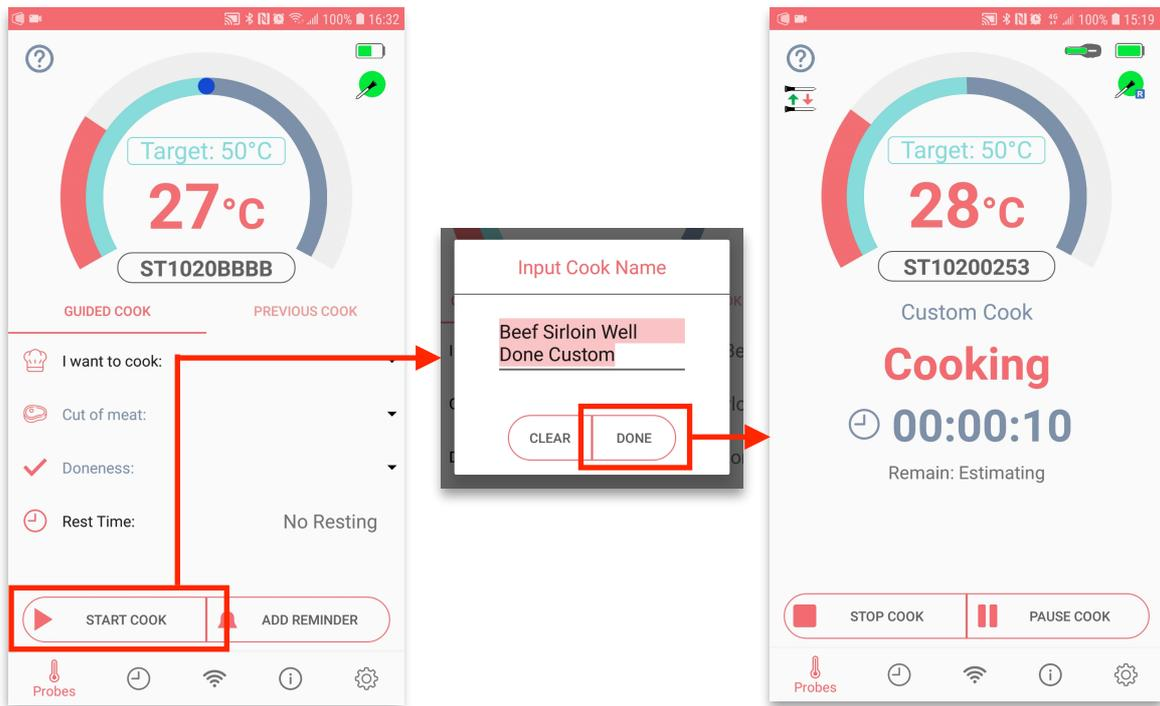

Figure 8. Start Cooking Process
10. During cooking. You will see the cooking screen in your mobile phone as shown in Figure 8.